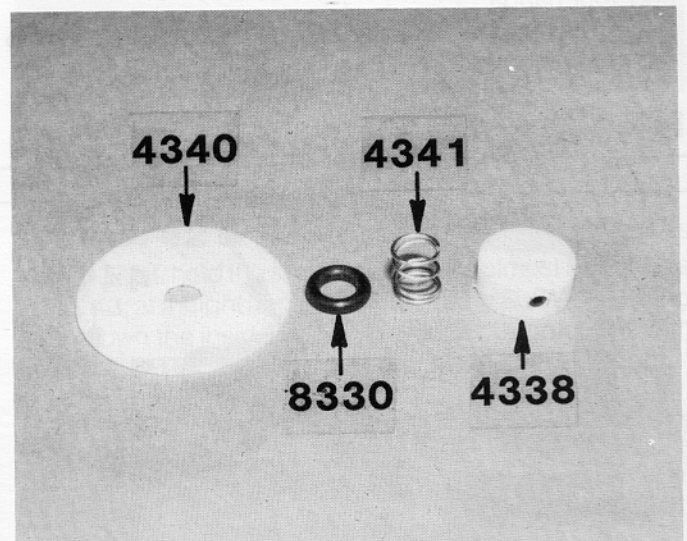

**Fig. 29**
□ **Figs. 29 & 30**—Time to install the rear #4428 brace. Open Bag #5. Install the two #4432 aluminum tube spacers to the chassis with the two short flat head screws shown, but do not tighten the screws yet.